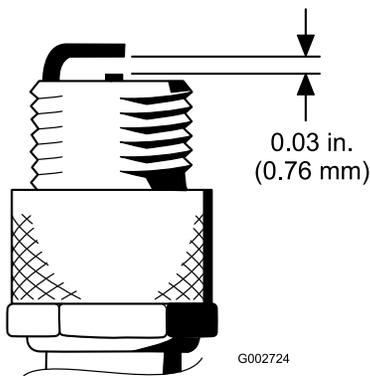

Figure 28
- Set the air gap between the center and side of the electrodes at 0.76 mm (0.030 inch) as shown in Figure 28.